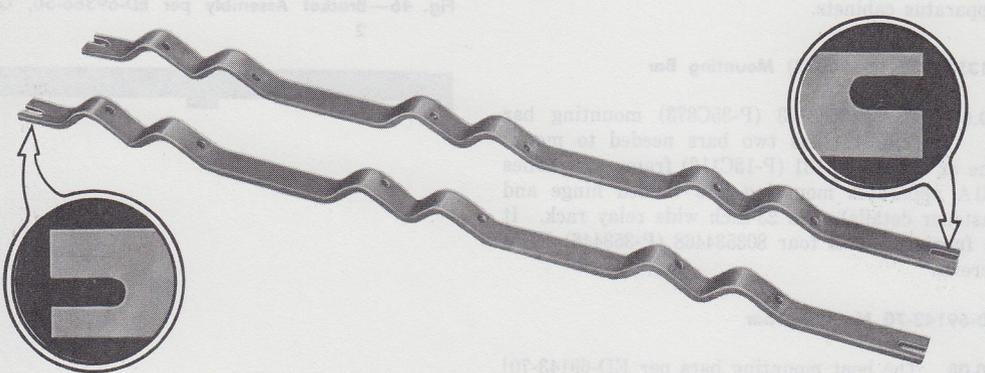

Fig. 48—Bent Mounting Bars per ED-69143-70
10.08 The bent mounting bars per ED-69143-70† (Fig. 48) are used to mount angle-bracket KTUs on 23-inch relay racks and in 4-, 11-, 18-, 26-, and 45-plate apparatus cabinets.